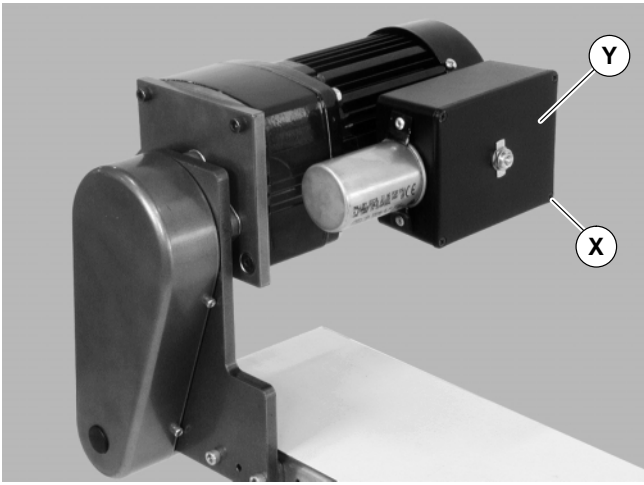

Figure 11
- a. Loosen terminal box screws (X of Figure 11) and remove cover (Y).